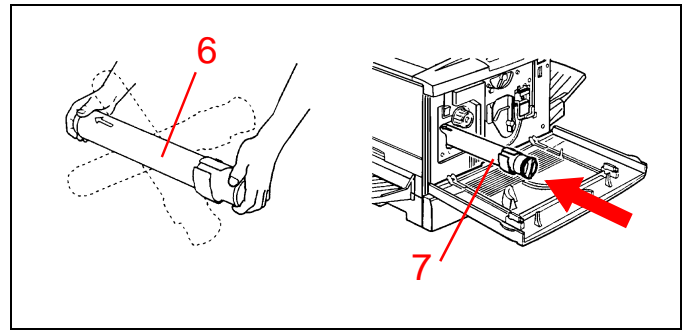

Figure 26
6. See Figure 26. Remove the new toner cartridge from the package and shake several times.